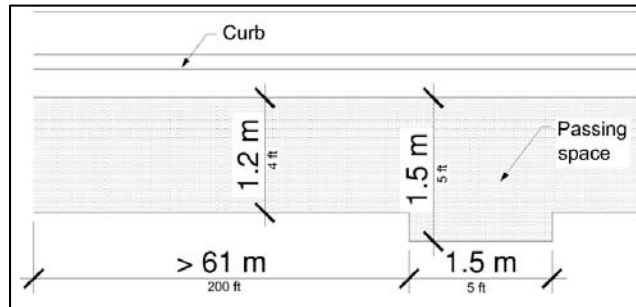

Figure 19 - Accessible Route Passing Spaces
- Passing spaces are 5 ft. x 5 ft. minimum (where installed) (see **Figure 19**)